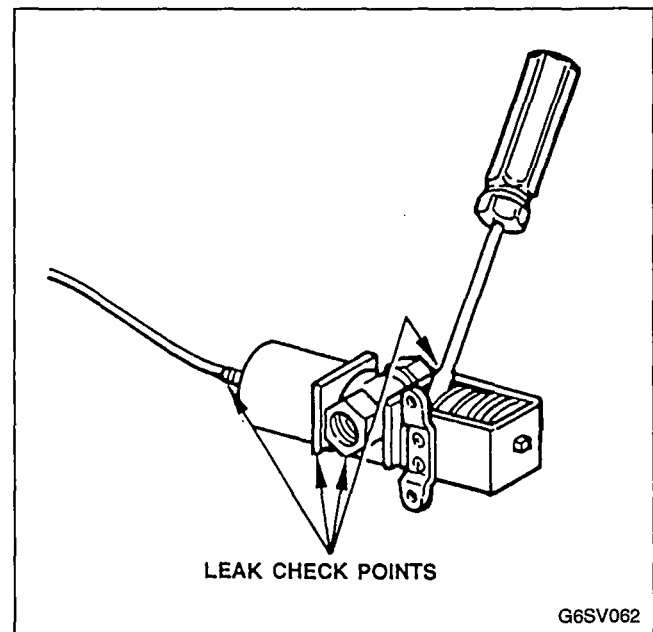

FIGURE 69. WATER REGULATING VALVE
2. Leak check where cap tube meets the bellows housing. See Figure 69.